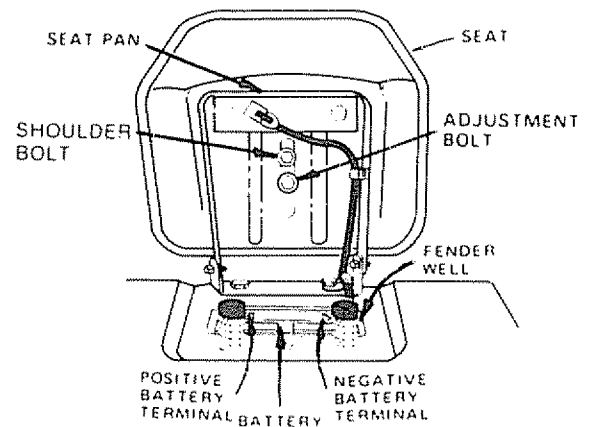
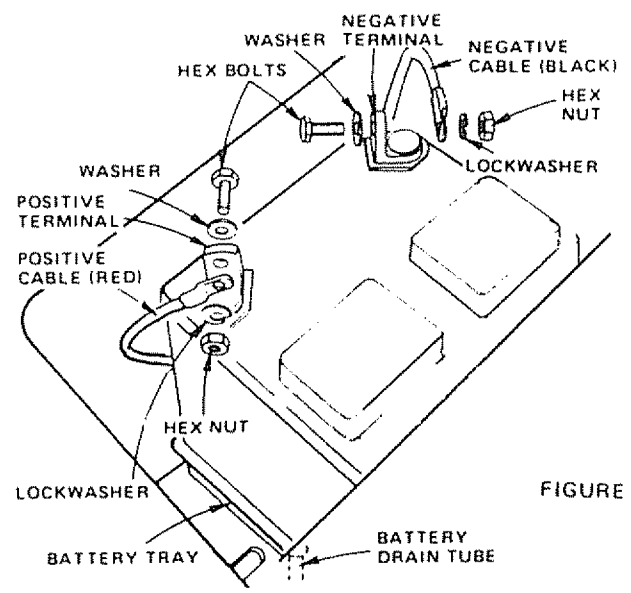

FIGURE 3
FIGURE 4
Seat position should be adjusted forward or backward so that the operator can comfortably reach Clutch/Brake Pedal and safely operate tractor. (Fig 3)
- Place seat on seat pan. Screw hex head machine screw, lockwasher and flat washer into seat (Fig 3). Screw shoulder bolt into seat (Fig 3). Machine screw, shoulder bolt and washers found in bag of parts (shown full size on page 6).
- a Lift seat (Fig. 3)
- b Lower battery into fender well with battery terminals toward front of tractor (Fig. 3). Make sure battery rests in battery tray (Fig. 4)
- c Connect **RED** battery cable to positive (+) battery terminal with hex bolt, flat washer, lockwasher and hex nut (shown full size on pg. 6) found in bag of parts. Tighten securely with two 7/16" wrenches. (Fig. 4)
- d Connect **BLACK** ground cable to negative (-) battery terminal with remaining hex bolt, flat washer, lockwasher and hex nut (shown full size on pg. 6) found in bag of parts. Tighten securely. (Fig. 4)